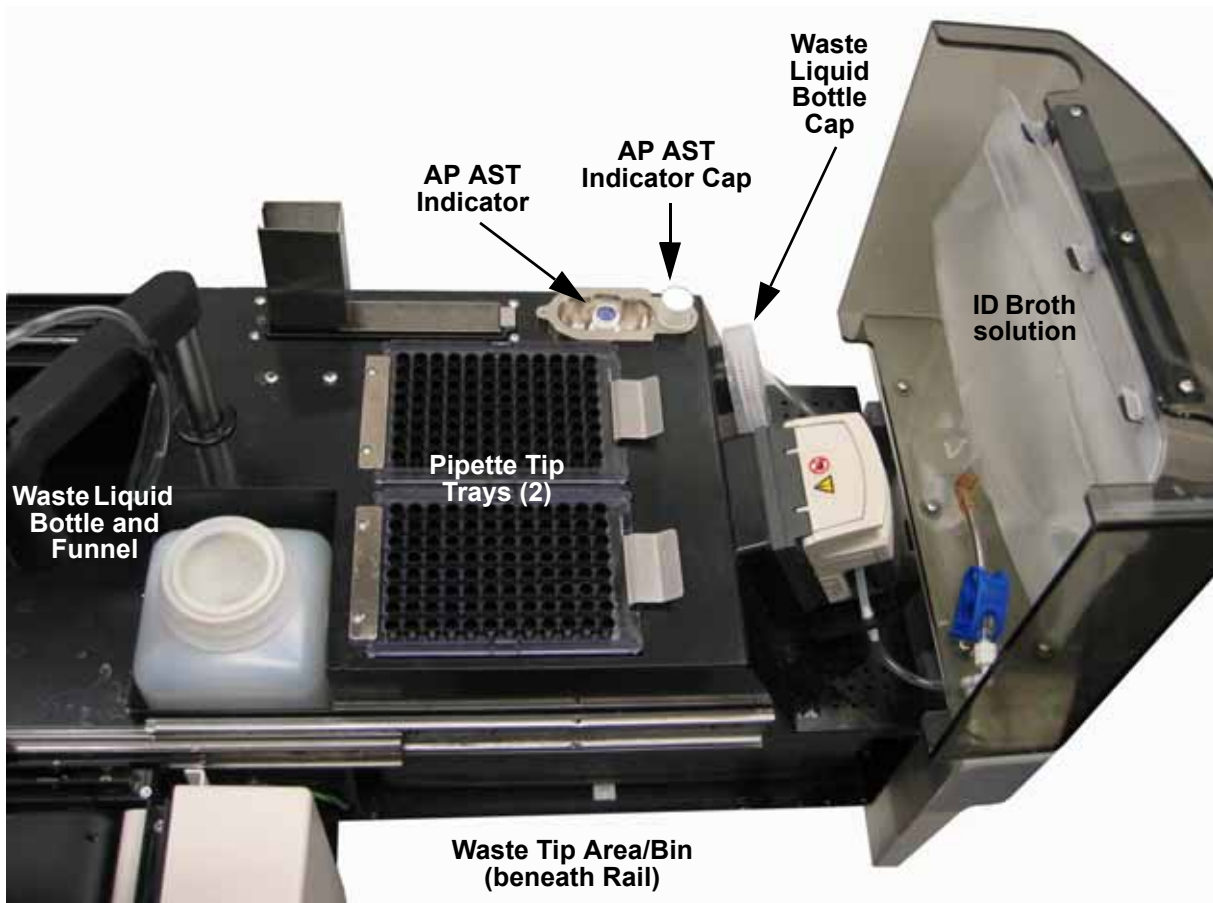

Figure 4-2 – Consumable Setup (open drawer viewed from left side)
Refer to Figure 4-2 for locations of consumables.
- Nonselective Culture Plated Media (see Figure 4-2)